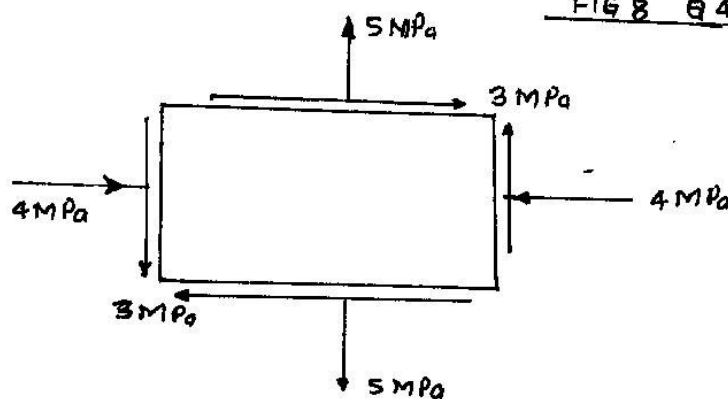

FIG 9. Q 5 (c)
- (c) An element is loaded by tensile stress 5MPa and compressive stress 4MPa in perpendicular directions alongwith shear stress 3MPa as shown in **fig 9**. Calculate normal, tangential and resultant stress on a plane making 30° angle in anticlockwise direction with the plane carrying tensile stress. **05**